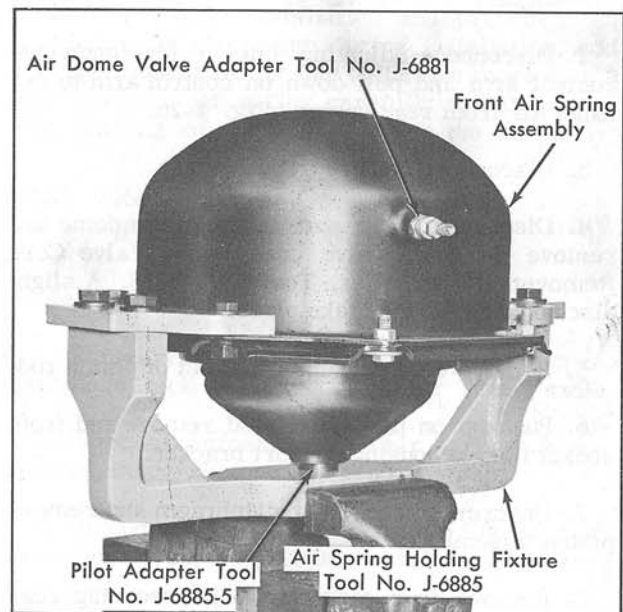

Fig. 4-25 Front Air Spring Leak Test
1. Using a vise, install front air spring assembly in Holding Fixture, Tool No. J-6885, Fig. 4-25, making sure that fixture is securely attached as it will be subjected to extreme pressure.